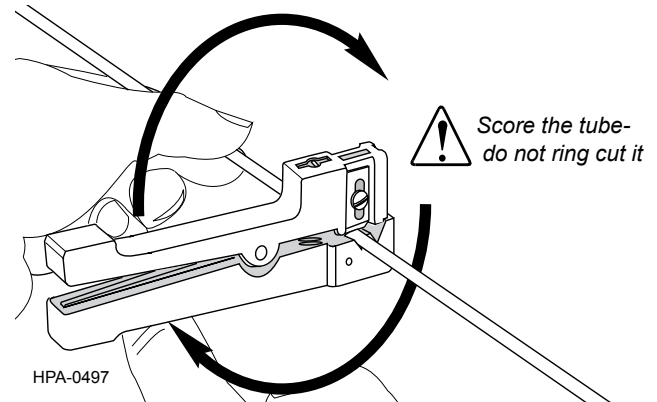

Figure 10
- Use your other hand to rotate the tool around the tube two to three complete turns to score it (Figure 10).